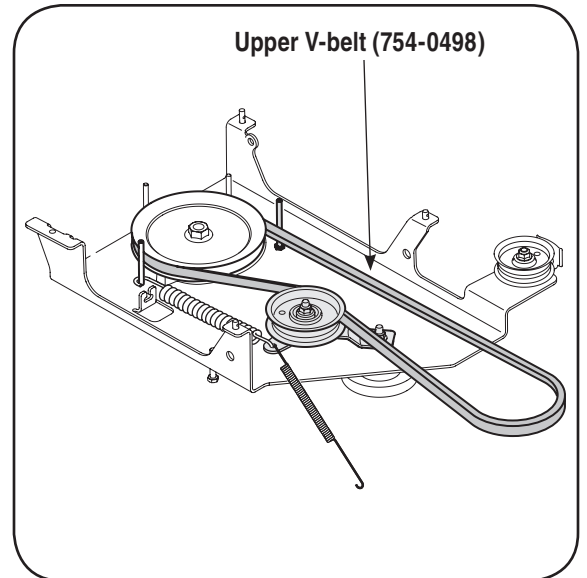

Figure 9
6. Position the upper v-belt (754-0498) as illustrated in Figure 9.